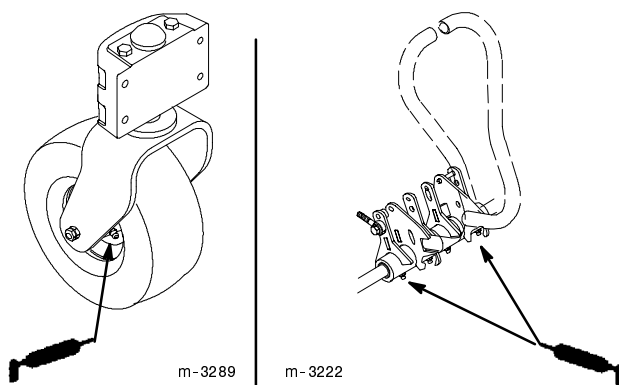

Figure 66
1. Lubricate the castor wheel bearings and motion control lever pivots until grease begins to ooze out of the bearings (Fig. 66).